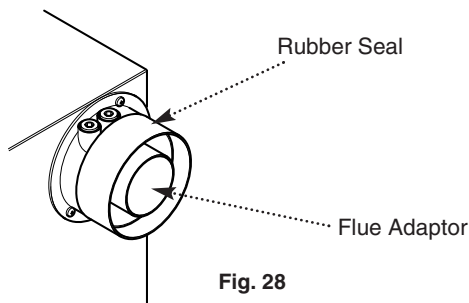
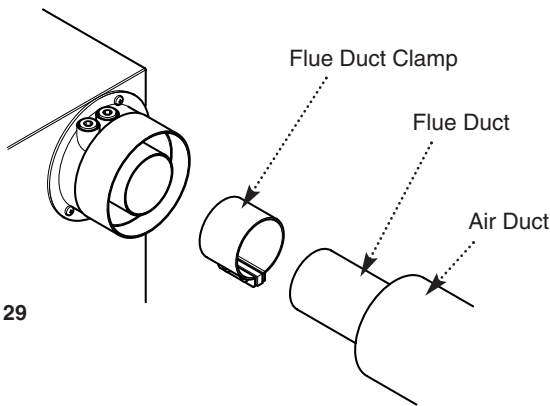

Fig. 28
Fig. 29
2. Take the rubber seal and position it on the boiler adaptor (Fig. 28). Using the flue duct clamp secure the flue duct to the adaptor (Fig. 29). (cont.)